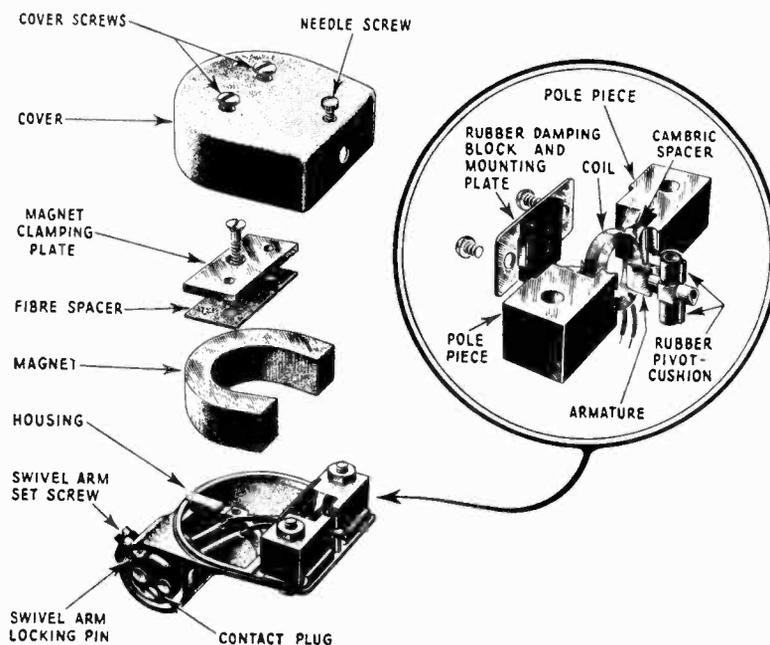

Figure 11—Details of the Magnetic Pick-up
- (a) Loosen the pick-up swivel arm set screw (see Figure 11) until the threaded position of the screw just shows above the shoulder in the pick-up housing socket. This should bring the lower end of the screw flush with the inner surface of the socket wall.